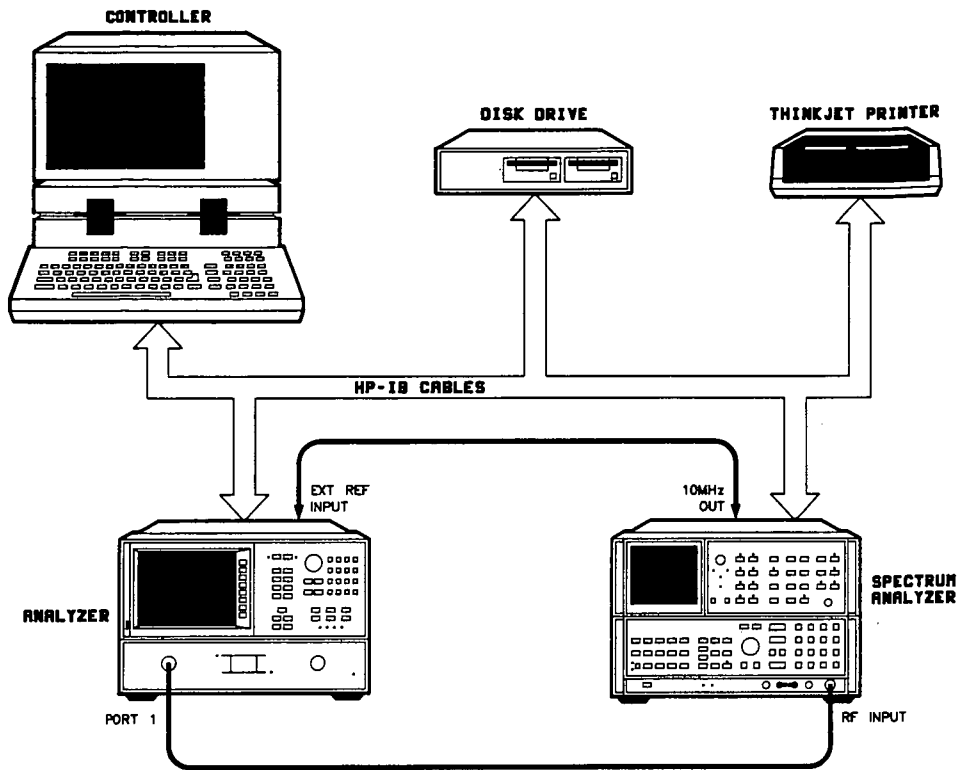

Figure 15. Fractional-N Spur and FM Sideband Adjustment Setup
1. Connect the equipment as shown in Figure 15.